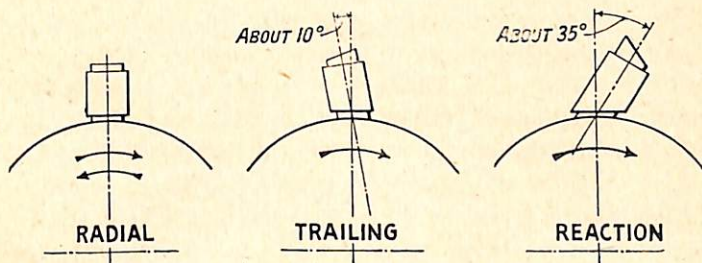

Fig. 7.—Usual types of brush-holders
3. The position of the brush holder must be correct, being truly at right angles for radial brush holders, or inclined at the correct angle in the case of trailing or reaction holders. For trailing holders, the angle should be about 10° from the radial, in the direction of rotation, and for reaction holders about 35° *against* the direction of rotation (fig. 7).